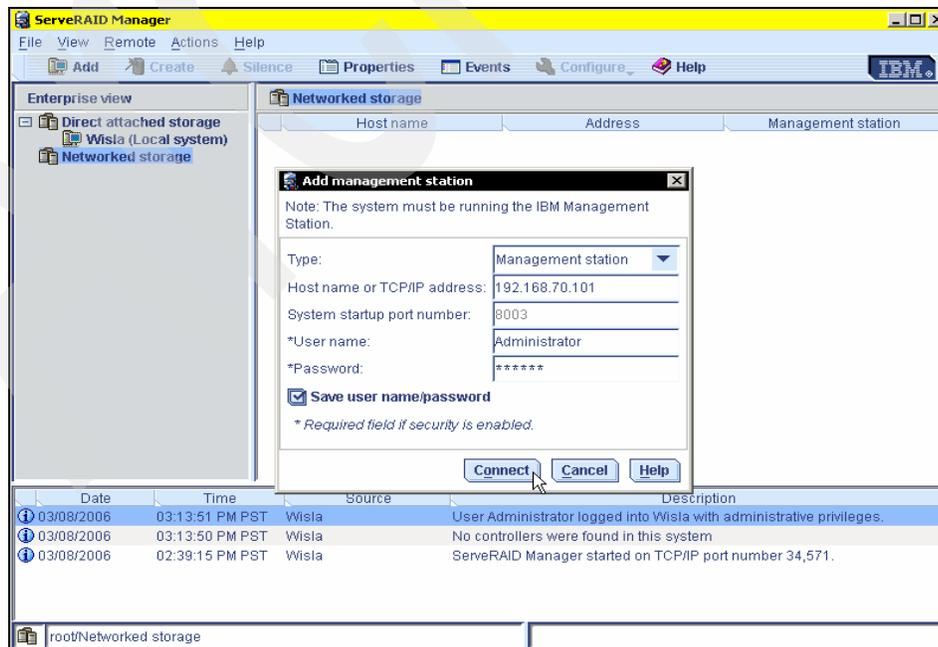

Figure 27 Management Station parameters
- b. In the pop-up box, enter the Host name or IP address, the username, and the password for the ServeRAID Management Station as shown in Figure 27. This is the username and password created while installing the Management Station software in "Management Station" on page 11. This username and password is used to log onto the Management Station.